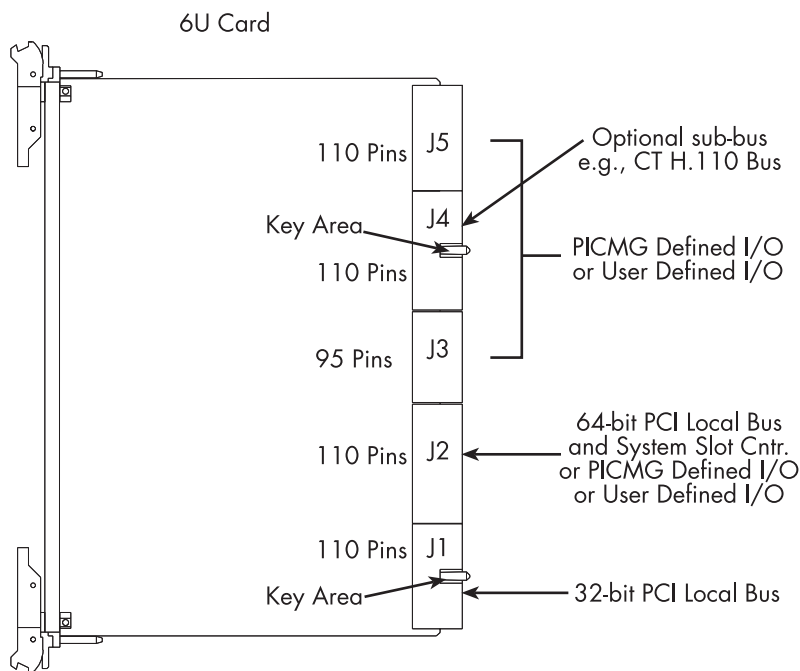

Figure 12. J1 through J5 connectors on the 6U card
- 6U cards—J1-J5 (see figure 12 on page 32)